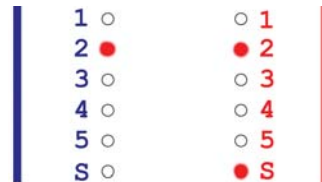

Fig 10. SHORT to Screen (Remote)
c) A short to SCREEN, this may be indicated by one, or both the screen LED's being ON in conjunction with another pair of LED's (Fig10).